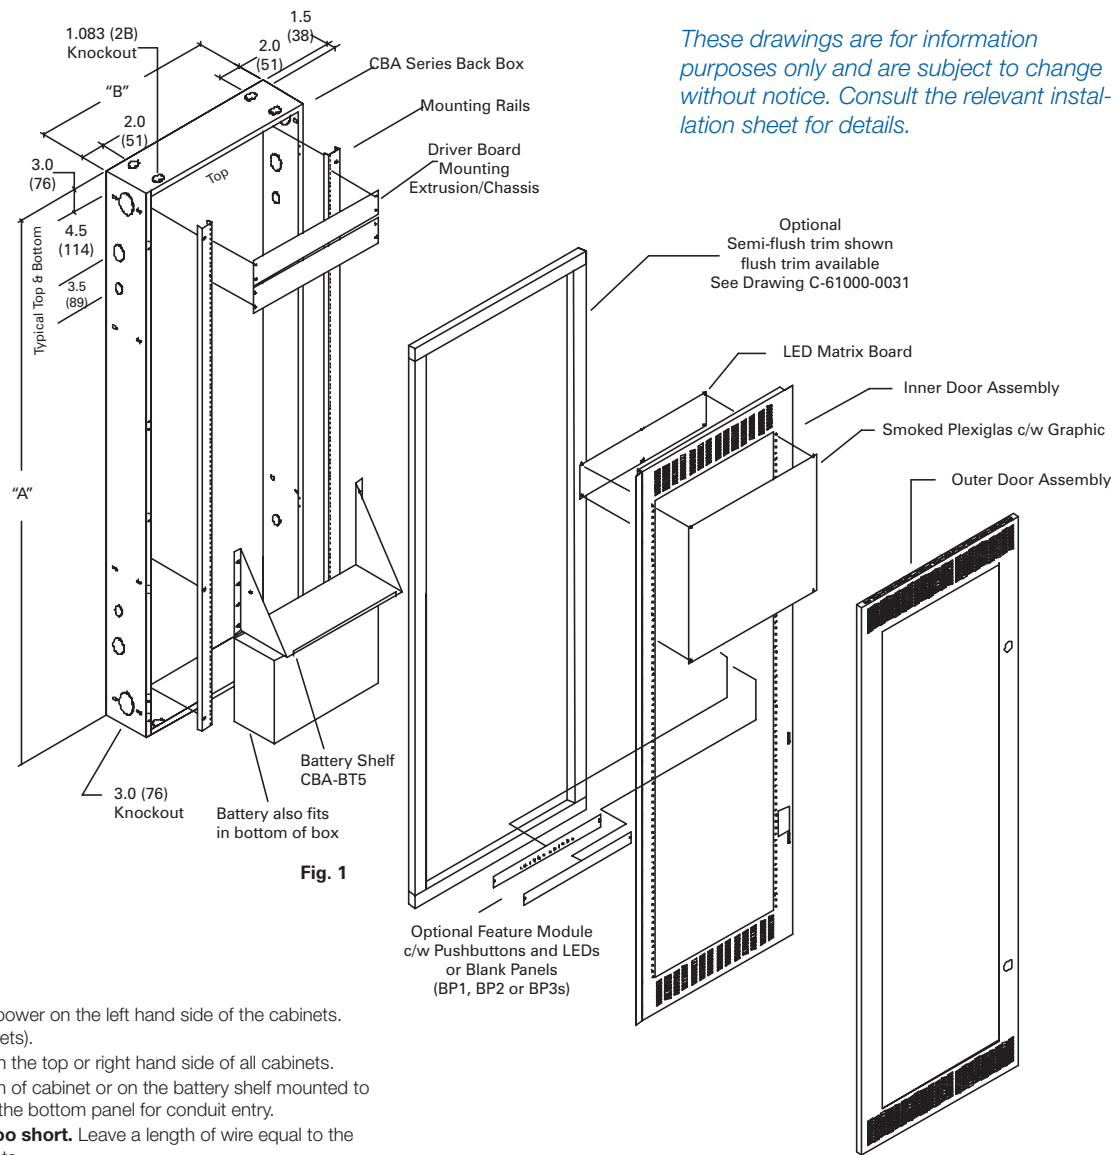

Fig. 1
Surface Mounting - Ref. Fig. 1
3. System batteries mount on bottom of cabinet or on the battery shelf mounted to rear rails. (See Fig. 1.) Do not use the bottom panel for conduit entry.
5. Maintain a minimum of 1.5 (38) clearance from corner walls to side of wallbox.
Doors and Trims - Refer Fig. 1